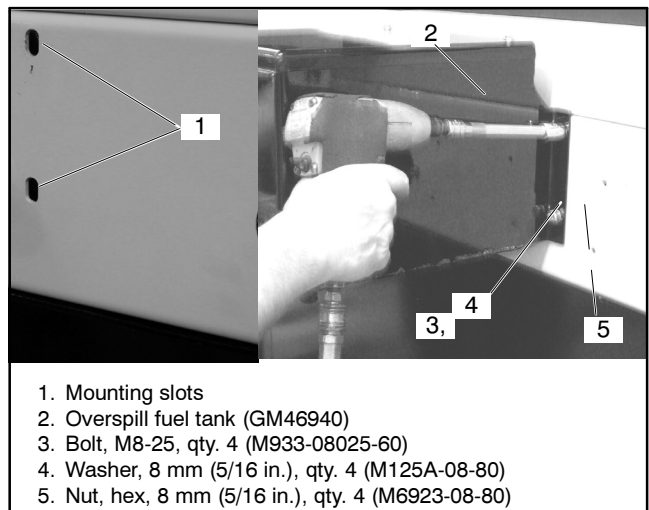

Figure 10 Secure Fuel Tank to Enclosure
- Place washers M125A-08-80 with M8-25 bolts M933-08025-60 thru mounting slot on overspill tank GM46940. Tighten all fasteners securely. See Figure 10.